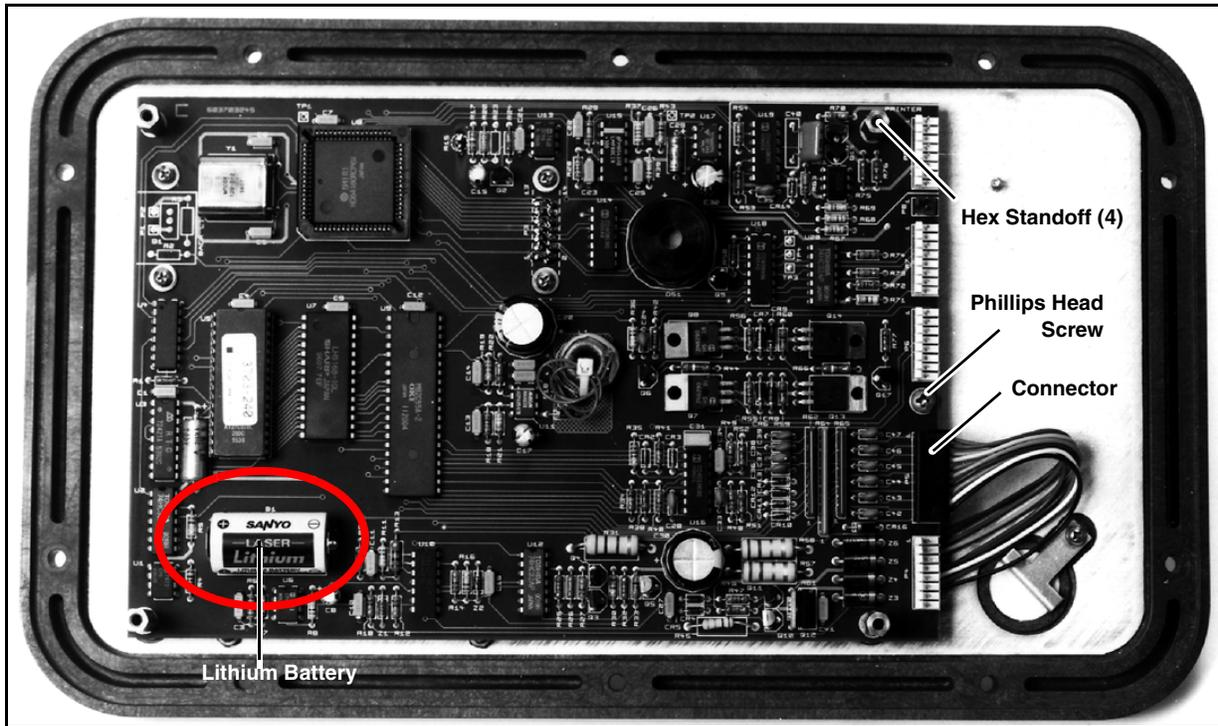

Figure 6-9 Main Circuit Board
unscrew the stop nut that holds the short grounding strap and unscrew the four screws located in each corner of the shield. Lifting the shield off will then reveal the main circuit board shown in Figure 6-9.
5. To remove the circuit board assembly from the control box cover, unscrew the four hex threaded standoffs and the phillips head screw, indicated in Figure 6-9. The circuit board may now be pulled away from the control box cover.
6. To completely disconnect the circuit board assembly from the cover, disconnect the connector shown in Figure 6-9.